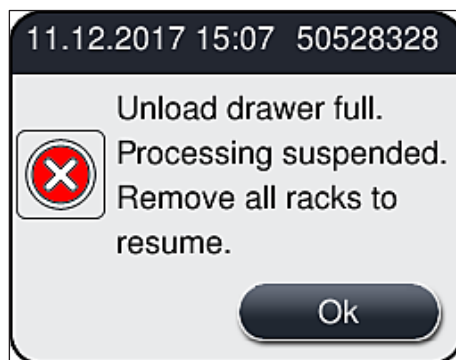

Fig. 76
- The unload drawer must be opened and all racks present must be removed – at the latest – when the message is received indicating that the unload drawer is completely occupied (→ Fig. 76). Failure to observe the message may lead to instrument faults and specimen impairment.